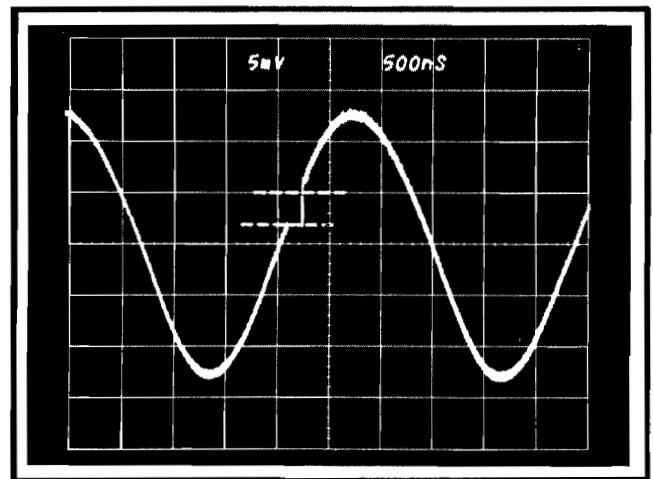

Fig. 5-14. Typical display of strobe kickback.
g. Check the vertical amplitude of the largest discontinuity for a maximum of 2 major divisions (10 mV or less), of strobe kickback. See Fig. 5-14.